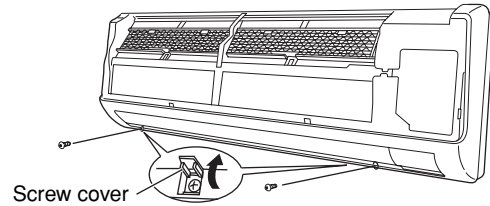
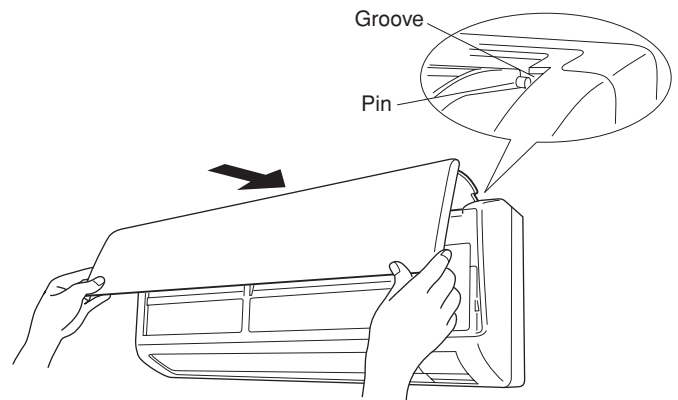

Fig. 16b
Fig. 19a
- (2) Remove the 2 screws. (Fig. 16b)
- (5) Affix the grille with the 2 previously removed screws. (Fig. 16b)
- (6) Install the air intake grille.
- (a) Allow the edge of the air intake grille to slide into the top of the indoor unit, and then insert it all the way inside. (Fig. 19a)